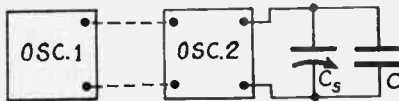

FIG. 6
Measurement by substitution is the most accurate of all methods, but, as a rule, when applied to condensers it is suitable only for very small condensers. In order to make direct substitution it is necessary to have an accurately calibrated standard of the same value as the condenser under measurement. In using substitution methods it is customary to utilize beats between two oscillators for determining the balance point. Fig. 6 shows schematically how substitution may be applied. The frequency of oscillator (1) is fixed, and this oscillator may be that of a broadcast station. It is coupled